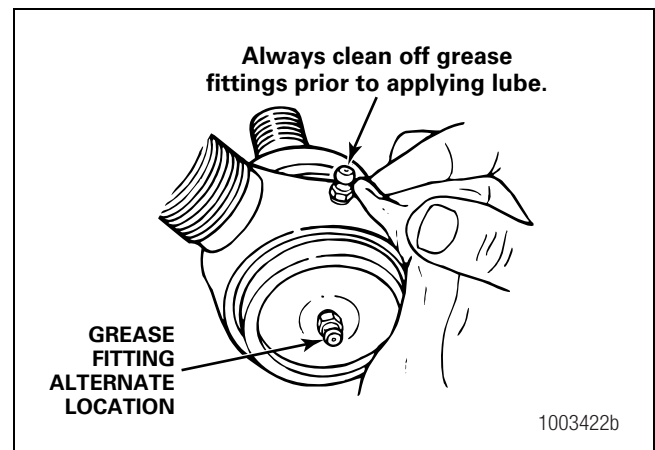

Figure 9.2
3. Wipe the grease fitting, seal and boot clean with shop towels. Figure 9.2.